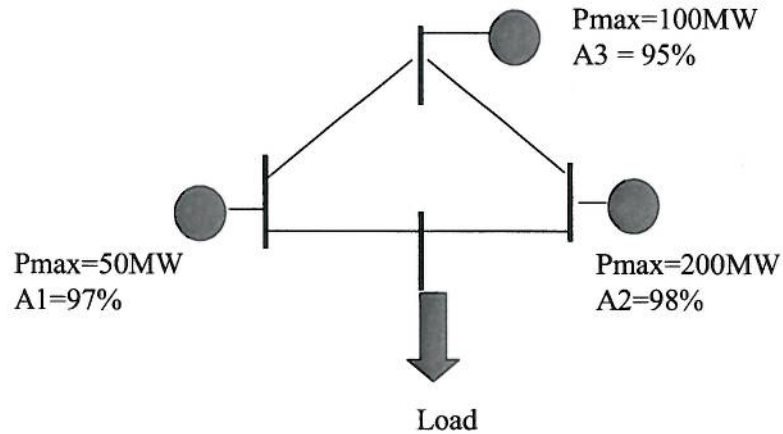

Figure 3: A simple power system
3. a) Consider a system supplied with three generators with given capacities and availabilities as in Figure 3.